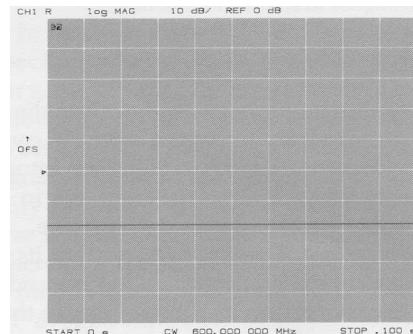

Figure 4. Plot of a mixer's fixed IF/fixed LO/fixed RF output power
6. Figure 4 shows the attenuated output power of the mixer's IF at the receiver. The conversion loss of the mixer is found by subtracting the attenuation from the total loss between the RF source and IF receiver.